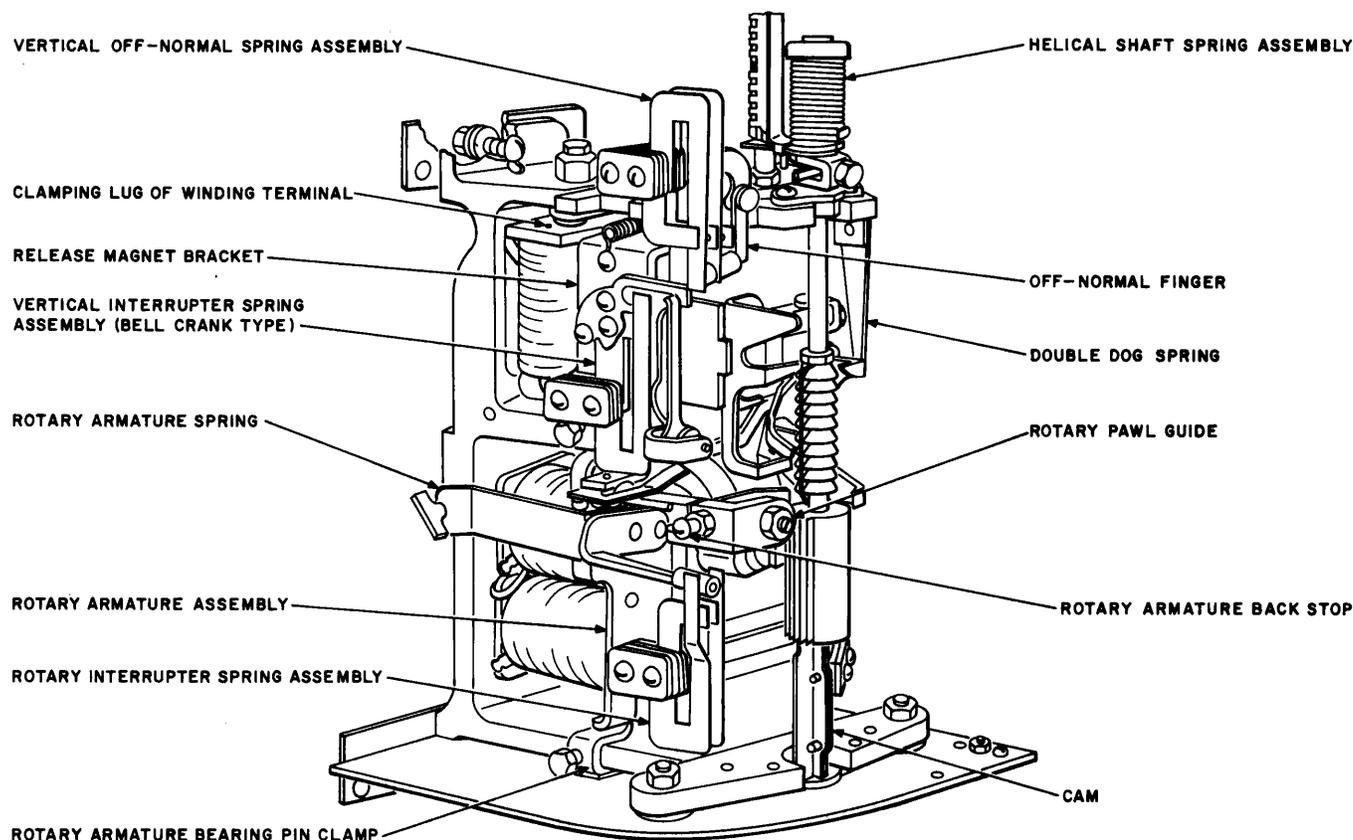

Fig. 19—Parts of 197-Type Switch as Viewed From the Left Side
ROTARY MECHANISM AND ASSOCIATED PARTS (Fig. 19 and 20)
(1) To replace the release magnet bracket, remove the release armature as described in subparagraph 3.23(1) and remove the release link as described in paragraph 3.25. On switches equipped with a bell crank operated vertical interrupter spring assembly per Fig. 19, remove the screws which hold the spring assembly bracket to the release magnet bracket with the 3-inch C screwdriver and remove the spring assembly. Remove the screw which holds the magnet to the magnet bracket with the 4-inch E screwdriver. When replacing the release magnet bracket on switches having a cover stud mounted in place of the left magnet mounting screw, mount the cover stud in place of the bracket mounting screw to the right of the shaft. On switches equipped with the type vertical interrupter spring assembly per Fig. 5 and 6, remove the screws which mount this assembly using the 4-inch E screwdriver. This will permit the assembly to be moved away from the switch sufficiently to permit the withdrawal of the magnet bracket.
(2) Remove the screw at the bottom of the magnet bracket with the 4-inch E screwdriver. Remove the release magnet bracket mounting screw or screws and, where provided, remove the switch cover guide stud from the front of the frame on the left with the 4-inch E screwdriver. Withdraw the magnet bracket from the left-hand side of the switch, taking care that the connections of the magnet and vertical interrupter springs are not broken or strained in this operation.
(3) Place the new magnet bracket in position. Remount the switch cover guide stud, where provided, in the mounting hole to the right of the shaft. Discard one mounting screw, leave the mounting hole to the left of the shaft empty, tighten the magnet bracket mounting screw, and fasten the magnet in position on the magnet bracket. Remount the vertical interrupter spring assembly. Remount the release armature and